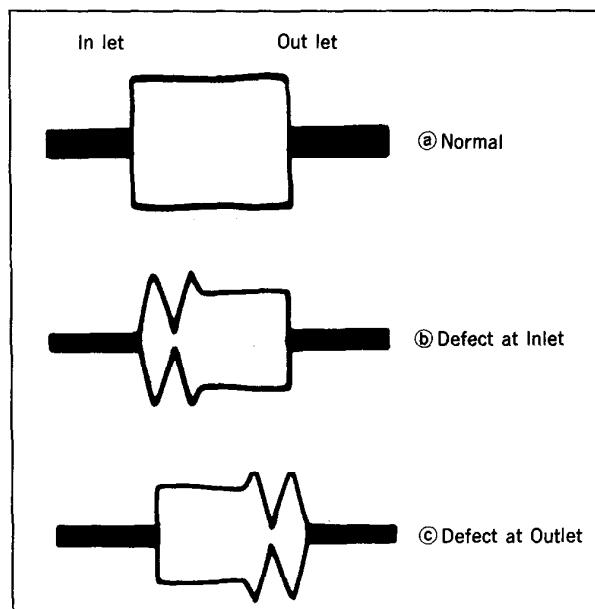

Fig. 36
- 5) Check that a RF waveform is flat at the inlet and outlet of the oscilloscope (Fig. 36 ②).
When the RF waveform is not flat at the inlet/outlet ; See Fig. 36 ③ and ④.